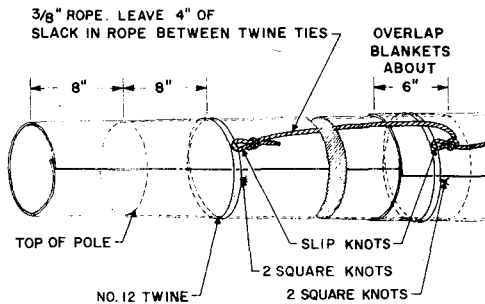

Fig. 3—Placing Insulating Blankets
5.02 Wrap an insulating blanket at the top end of the pole and secure it with No. 12 twine, using ties as shown in Fig. 3. Only one turn of the twine should be passed through the noose in the rope. (Since No. 12 twine is not usually carried on a construction truck, it is suggested that a 1/2-pound spool of this twine be carried in the blanket canister used for storing insulating blankets.)
5.04 Secure the bottom of the lowest blanket with a twine tie similar to that shown in Fig. 3.